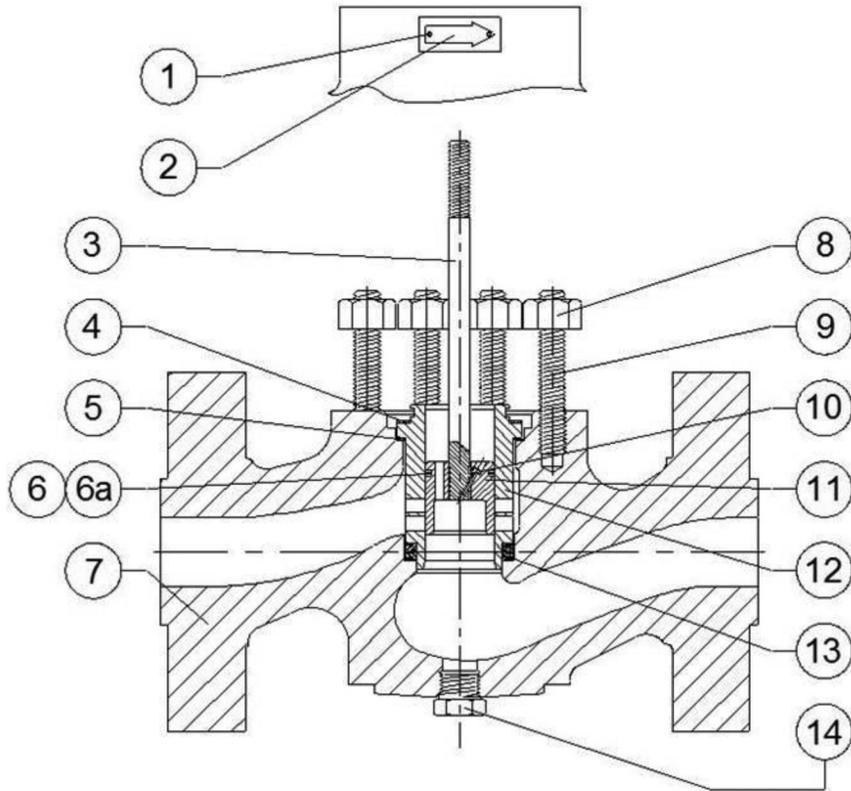
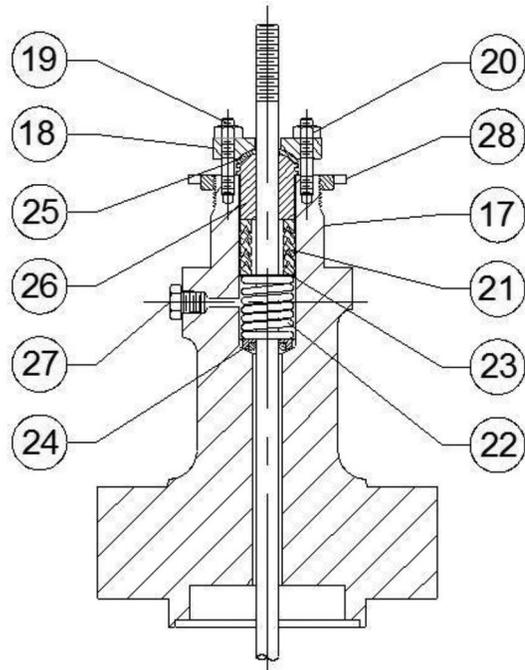
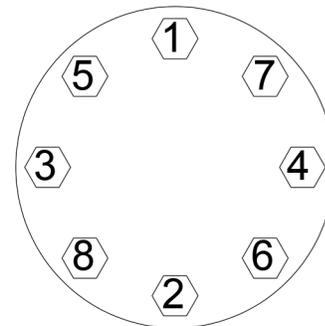

Figure 1: Mark H-900, H-1500 and H-2500 Valve Body Showing Mark ED Trim
Figure 3: H-900, H-1500 and H-2500 Bonnet Parts
Figure 4: Typical Bolting Pattern
Body Parts (Figures 1 & 2)
Bonnet Parts (Figure 3)
These instructions refer to the replacement of single or double TFE V-Ring, Garlock and Grafoil packing. Key numbers refer to Figures 1, 2 and 3.
3. Unscrew the yoke locknut (Figure 3, Key 28) and separate the actuator from the bonnet (Figure 3, Key 17).
4. Remove the hex nuts (Figure 1, Key 8) and lift the bonnet (Figure 3, Key 17) and valve plug and stem assembly from the valve body (Figure 1, Key 7). Set those components on a clean surface and protect the gasket sealing serrations in the bottom of the bonnet. These serrations are essential for a tight seal between the body and bonnet during reassembly.
5. Remove the bonnet gasket (Figure 1 and 2, Key 4).
6. Loosen the packing flange nuts (Figure 3, Key 20) so the packing becomes loose around the stem.
7. Remove the hex nuts from the valve plug stem (Figure 1, Key 3) and pull the valve plug and stem assembly out of the bonnet. Place this assembly on a protective surface.
8. Remove the hex nuts (Figure 3, Key 20), the packing flange (Figure 3, Key 18), the packing follower (Figure 3, Key 26) and the felt wiper (Figure 3, Key 25).
12. Insert the valve plug assembly in the cage, mounting the bonnet onto the body. Ensure that the leak-off piping (or pipe plug, Figure 3, Key 27) is facing downstream.
13. Apply lubricant to the body stud bolts (Figures 1 and 2, Key 9) and the hex nuts (Figures 1 and 2, Key 8). Thread the nuts onto the body stud bolts using good bolting practices. Refer to Table 1 for proper bolt torques and tighten the nuts in a criss-cross pattern (See Figure 4). When the control valve assembly reaches operating temperature, repeat the procedure. Proper tightening of the bonnet nuts ensures a positive sealing of the cage seals and the spring seal.
14. Refer to Figure 3 and arrange the packing parts as outlined. Slide the new packing carefully over the valve plug stem, and ensure that the packing parts are not damaged by the threads of the valve plug stem.